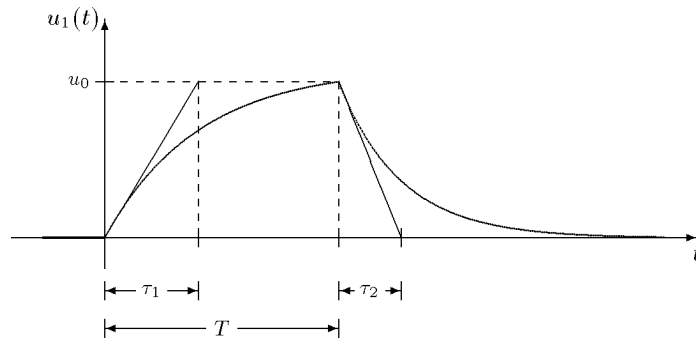

Figure 12-4: Double exponential pulse
3. Double exponential pulse     DEXP / DEXP (see figure 12-4)